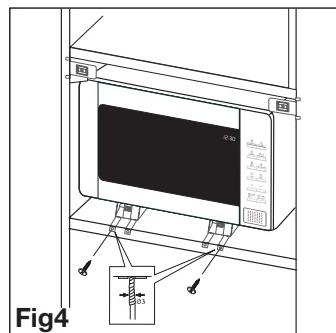

Fig4
4. Use the 3mm drill to make holes. Fix screws into BKT-Base. (Fig4)